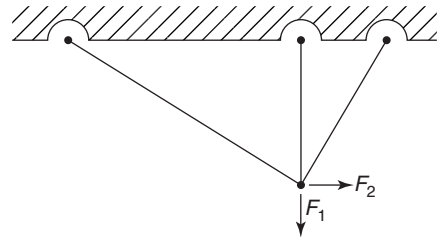

Figure 4.42
1. Is the truss of Figure 4.42: